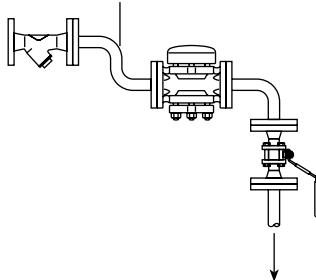

Fig. 4 Typical installation
4.2 Commissioning with particular reference to venting air (refer to Figure 4).